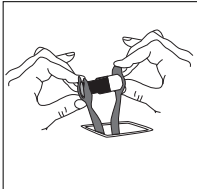

Figure 2, Abbildung 2, Figura 2, 图 2
- With the capsule inverted, SLOWLY press the plunger end of the capsule against a flat surface (see figure 1) until the flange of the plunger is flush with the capsule body (see figure 2). THIS IS MOST IMPORTANT. Initially, resistance will be felt, then suddenly released as the plunger pierces a diaphragm allowing the mercury to enter the mixing chamber.